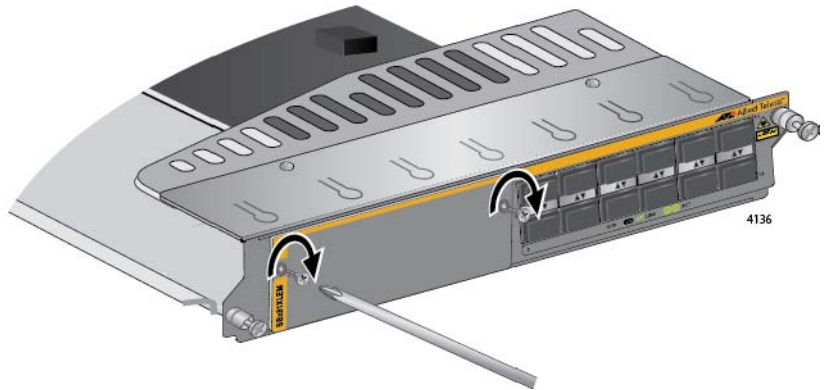

Figure 189. Securing the Blank Slot Cover
10. Secure the blank slot cover to the card with a Phillips-head screwdriver and the two screws removed in step 3. Refer to Figure 189.